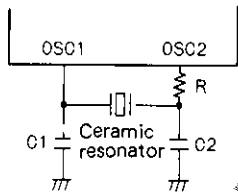

Fig. 2 Ceramic Resonator Oscillation Circuit
- Note 1: When oscillated internally under the oscillating conditions in Fig. 2, up to the oscillation amplitude generated is allowable.